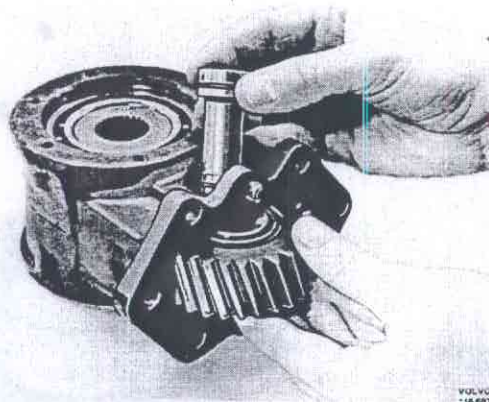

Fig 46-148 Fitting the gear
8. Oil the drive gear bearings and place the drive gear in the housing, Fig. 46-148, and fit the shaft in position. Press in the shaft.